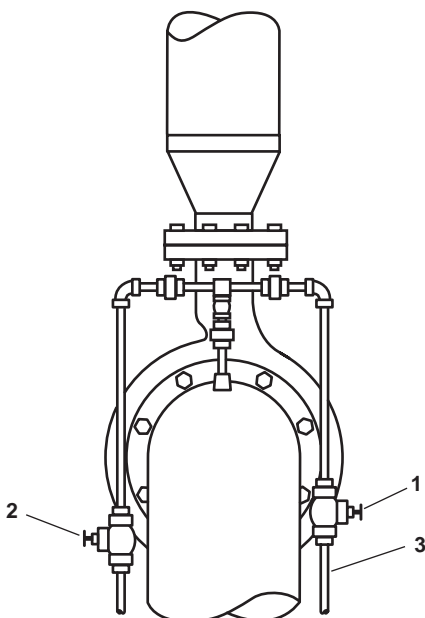

Figure 3. Diesel Engine-Driven Firefighting Pump Priming Valves
- a. GS-111, FF PMP PRM EDUCTOR DISCH (figure 3, item 1)
- b. CA-73, SVCE AIR TO FF PMP PRM EDUCTOR (figure 3, item 2)
5. When water discharges from the overflow line (figure 3, item 3), CLOSE the following valves:
- a. CA-73, SVCE AIR TO FF PMP PRM EDUCTOR (figure 3, item 2)
- b. GS-111, FF PMP PRM EDUCTOR DISCH (figure 3, item 1)